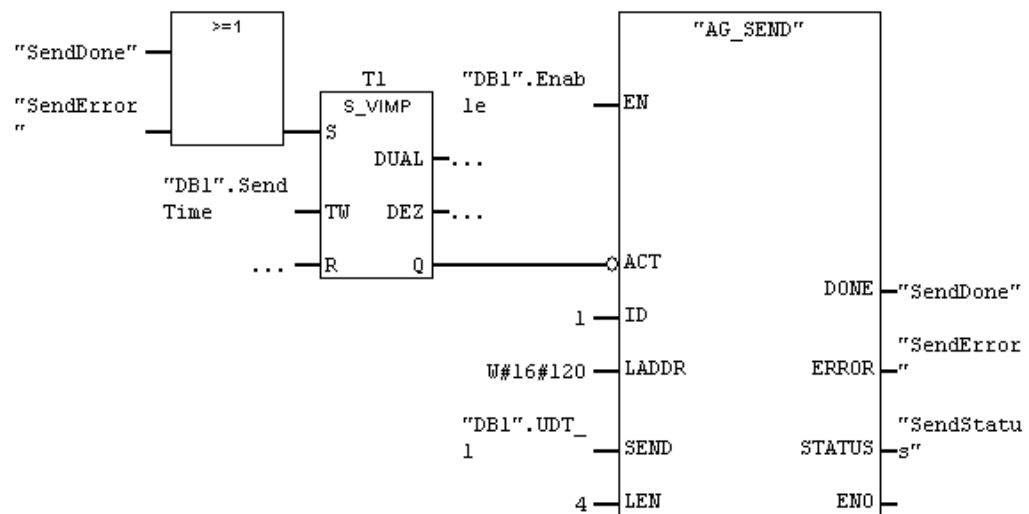

Figure24: The configuration of "AG_SEND" (FC 5)
- ❑ Connect and configure the function blocks as in Figure24.